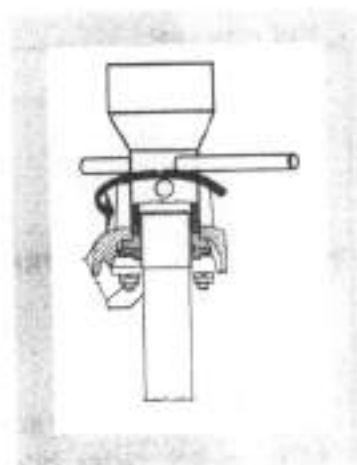

Fig. 39 – Tighting of steering head
3. Bearing nuts – fixture No. 20 (fig. 39)
4. Bearing nuts – fixture No. 20 (fig. 39)